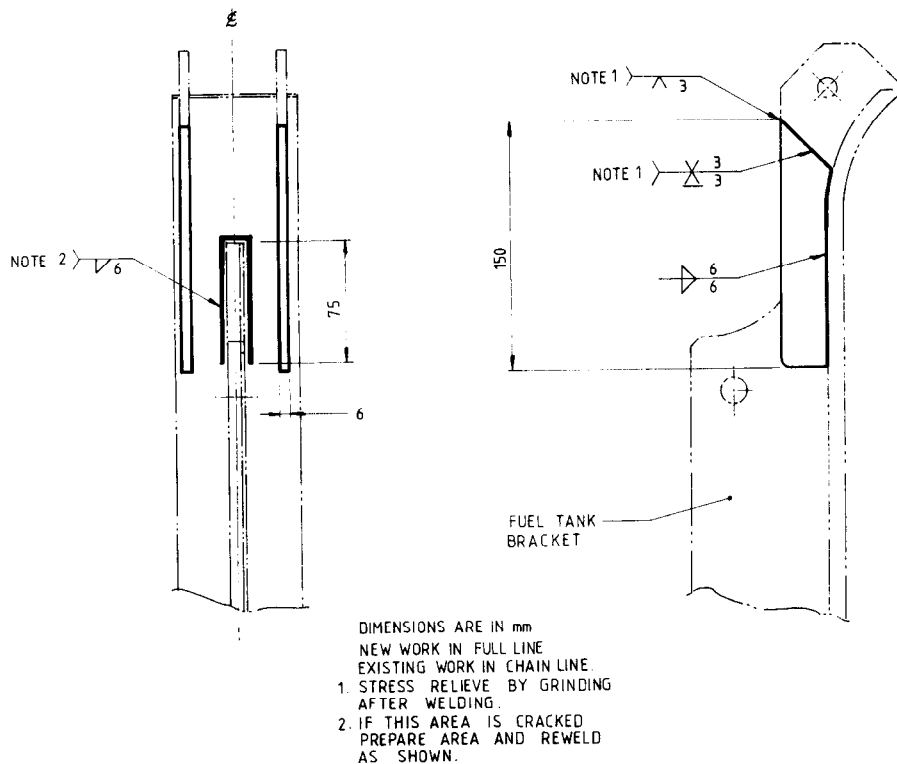

FIG 1 - REPAIR DETAIL
- b. Gouge and reweld any cracked welds ensuring that the weld continues 75 mm down the supporting rib as shown in Fig 1.
- c. Cut the steel bar item 1 Table 1 to the dimensions shown in Fig 1.
- d. Prepare the areas to be welded and weld using the electrodes, item 2 and 3 Table 1, as shown in Fig 1.